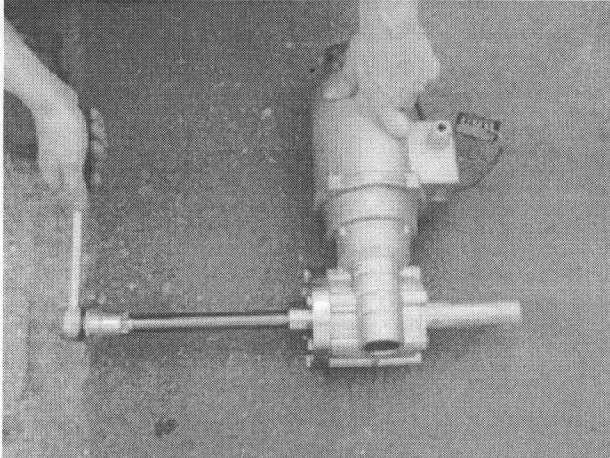

Fig. 089
11. With the extractor, press pulley shaft from the gear (Fig. 089).